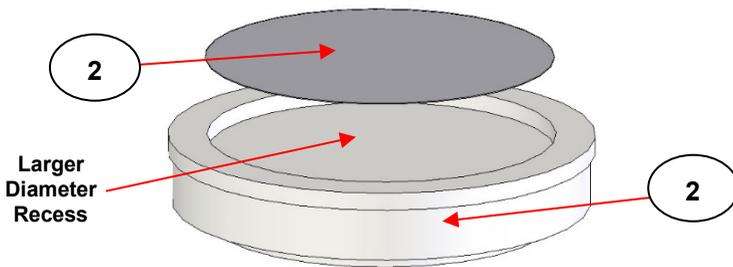
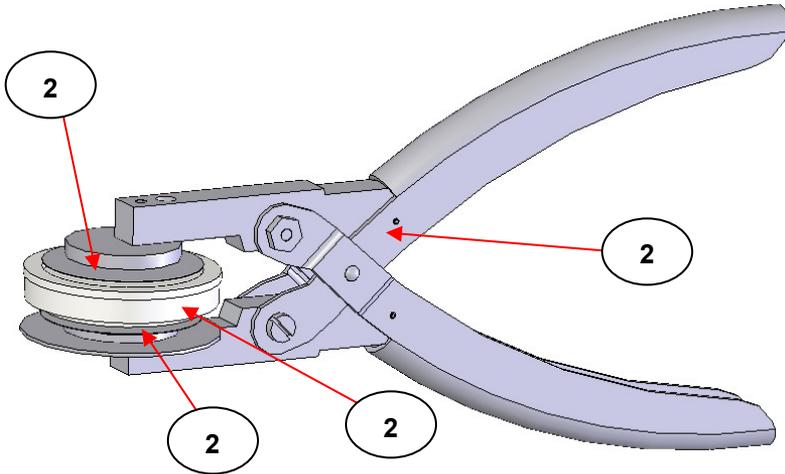

Fig 10. Foil Disc to Place in Foam Pad for Pressing in Sample Cup Tool to Make the Sample Cup
Fig 12. Foil Discs and Foam Pad for Pressing in Sample Cup Tool to Make the Sample Cup and Sample Cup Cover
To make a sample cup (22), using the forceps supplied first place a 40mm diameter foil disc (21) inside the large (40mm diameter) recessed area of the foam pad (25). The foil discs (21) have two different surface finishes – one shiny and one matt. If a reduction of spectroscopic interference fringes is sought for thin films, then the foil disc (21) should be placed matt side up in the foam pad (25). Conversely if fringes are required, for example to measure the thickness of a prepared film, then place the foil disc (21), shiny side upwards in the foam pad (25). (See Fig 10.)
Now, very carefully place the already prepared foam pad (25) with the foil disc (21) (from Fig 10.) uppermost between the pressing surface jaws of the sample cup making tool (24) and over the foil disc (21) held within the three locating prongs, such that the smaller diameter underside of the foam pad (25) locates within the prongs. (See Fig 12.)
Using the forceps supplied remove the spacer ring (18). If the spacer ring (18) has become stuck into position and is not easily removed using the forceps, then a small flat bladed screwdriver may be employed within the groove around the spacer ring circumference (see Fig 12. page 21) to carefully prise out of its location.